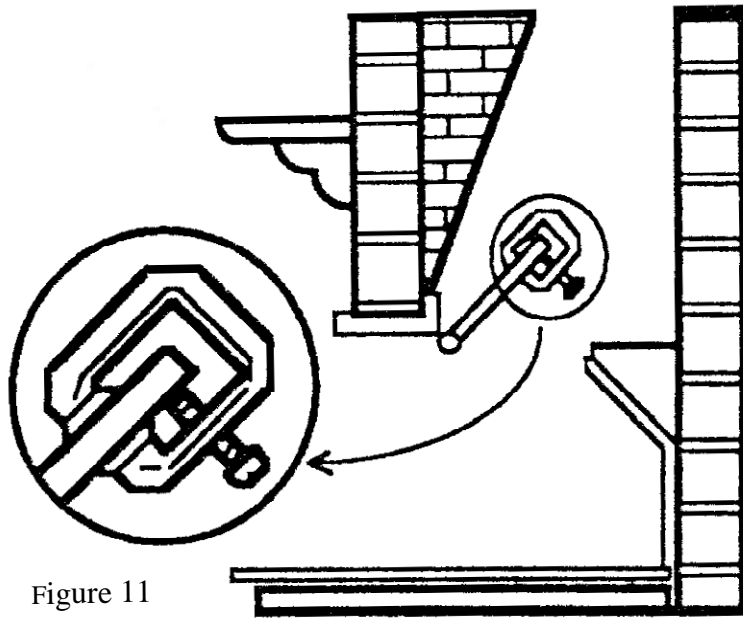

Figure 11
- (1) This appliance must be installed only in a solid-fuel burning fireplace with a working flue and constructed of non-combustible materials.
- (2) A minimum of 34 sq. in. (Min. 6" chimney) or see page 41, permanent flue opening must be provided by either the fireplace chimney or chimney damper to vent the flue gases.
- (3) Solid fuels shall not be burned in a fireplace where a decorative appliance is installed.
- (4) Any chimney damper must be fixed in a manner which will maintain the minimum permanent vent opening at all times. See figure 11.